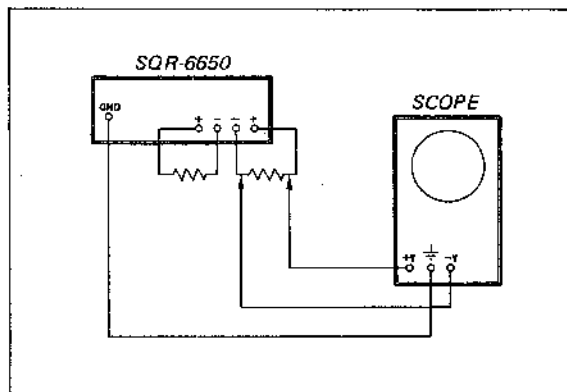

Fig. 3-22
2. **Differential Oscilloscope**—If your scope has a differential input facility, you can connect it as shown in Fig. 3-22 and measure the peak-to-peak output voltage at which clipping occurs. This technique is the least useful since you cannot determine the distortion under these conditions.